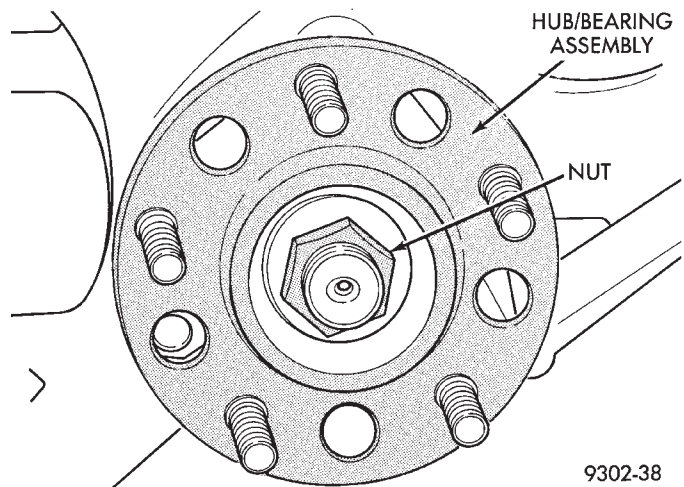

Fig. 14 Hub And Bearing To Stub Axle Retaining Nut
CAUTION: The hub and bearing assembly to stub shaft retaining nut (Fig. 14) is a prevailing torque nut and can not be re-used. A **NEW** retaining nut **MUST** be used when assembled.
(8) Install a **NEW** hub and bearing assembly to stub shaft retaining nut (Fig. 14). **Tighten but do not torque the hub nut at this time.**